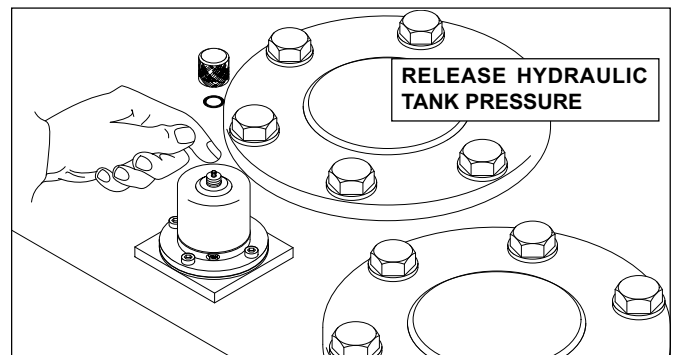

FIGURE 4.16C
- a. Release hydraulic tank pressure. See Figure 4.16C.